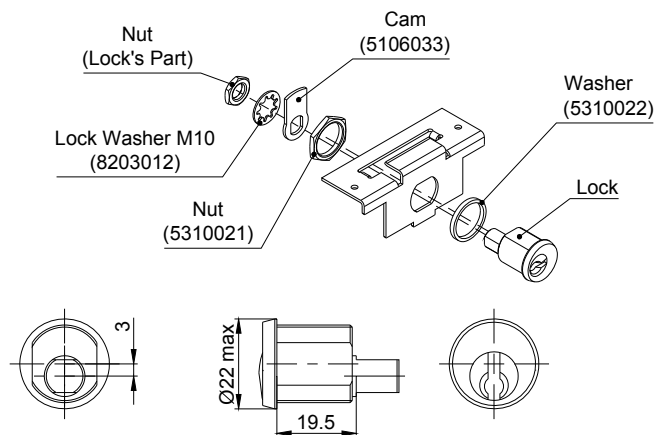

Fig. 42
- Step #4. Install the lock into the lock bracket (Fig. 42)